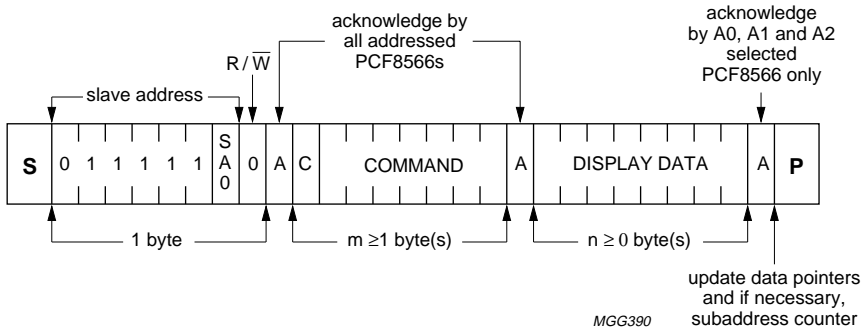

Fig.15 I²C-bus protocol.
The I²C-bus protocol is shown in Fig.15. The sequence is initiated with a START condition (S) from the I²C-bus master which is followed by one of the two PCF8566 slave addresses available. All PCF8566s with the corresponding SA0 level acknowledge in parallel the slave address but all PCF8566s with the alternative SA0 level ignore the whole I²C-bus transfer. After acknowledgement, one or more command bytes (m) follow which define the status of the addressed PCF8566s. The last command byte is tagged with a cleared most-significant bit, the continuation bit C. The command bytes are also acknowledged by all addressed PCF8566s on the bus.